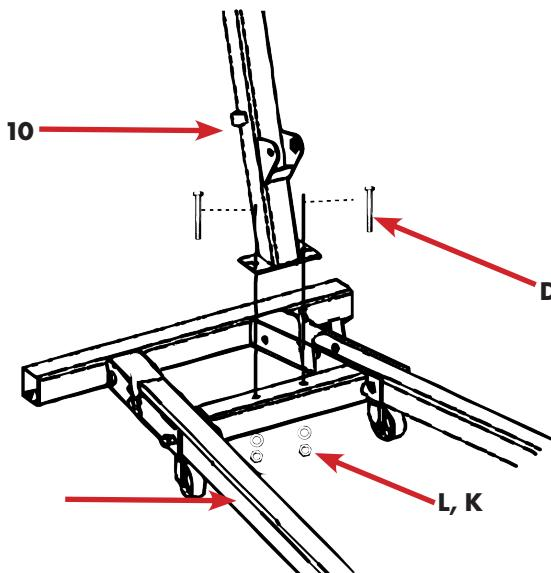

fig.11
- Use two of the M14x100 bolts with washers and nuts, see Abb.11.
Legend Figure 11 (see also from page 15, Figure 2 and Table 1)